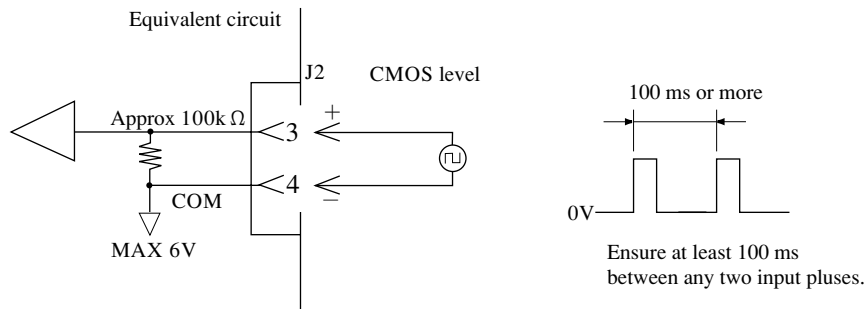

Figure 3.7-14
The Electronic Load accepts a trigger input signal via pins ③ and ④ of J2 on the rear panel as shown in Figure 3.7-14. The allowable maximum voltage of the trigger input signal is 6 V and the acceptable minimum pulse width is 20 μ s. You may use this function to drive the Electronic Load in synchronization with other Electronic Loads.